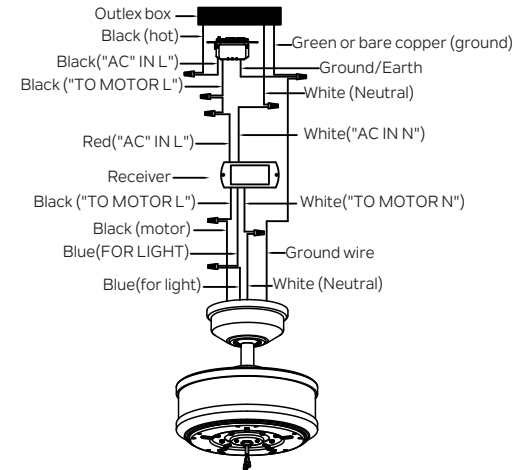

Fig. 13
Step 2. Motor to Receiver Electrical Connections: Connect the BLACK wire from the fan to BLACK wire marked "TO MOTOR L" from the receiver. Connect the WHITE wire from the fan to the WHITE wire marked "TO MOTOR N" from the receiver. Connect the BLUE wire from the fan to the BLUE wire marked "FOR LIGHT" from the receiver. Secure all the wire connections with the plastic wire nuts provided. (Fig. 13)
Step 3. Remote Receiver to Outlet Box Electrical Connections: Connect the BLACK (hot) wire from the ceiling to the BLACK wire marked "AC in L" from the wall control. Connect the WHITE (Neutral) wire from the ceiling to the WHITE wire marked "AC in N" from the receiver. Connect the BLACK (To Motor L) wire from the wall control to the RED wire marked "AC in L" from the receiver. Secure the wire connections with the plastic wire connectors provided. (Fig. 13)
Step 4. If your outlet box has a ground wire (green or bare copper) connect it to the fan ground wire : otherwise connect the fan ground wire to the mounting bracket. Secure the wire connection with a plastic nut provided. After connecting the wires, spread them apart so that the green and white wires are on one side of the outlet box and black and blue wires are on the other side. (Fig. 13)